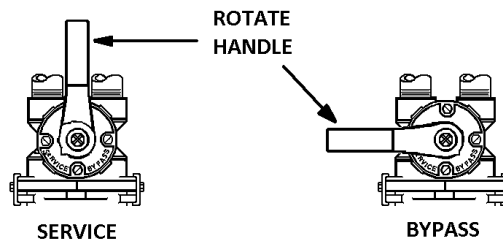

FIGURE 4: Stainless Steel Bypass Valve Operation
STEP 9: Place bypass valve in the "Bypass" position (refer to Figure 4 below). Open main supply valve or turn on power to pump on private well systems.
- STEP 11:** Refer to Figure 4 (page 5) for appropriate bypass valve operation. Rotate bypass lever of stainless steel bypass $\frac{1}{4}$ of the way to Service allowing the unit to fill slowly. Filling the mineral tank in this position will force any trapped air to the drain. When only water flows to the drain; slowly open the bypass valve to the “Service” position, pausing briefly if more air is expelled.